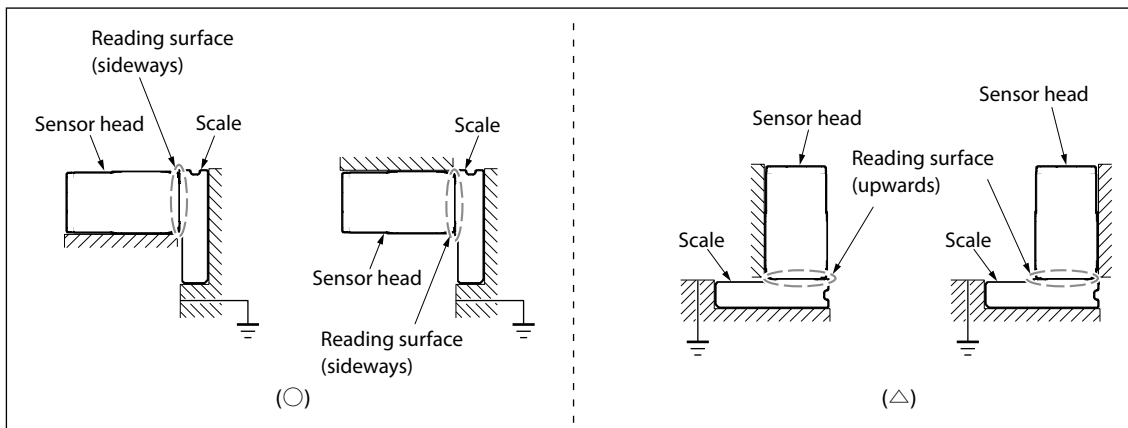

Fig. 3-1
- The sensor head will be damaged if the sensor head is moved outside the effective length (L) after installation. The sensor head must always be moved within the effective length.
- If sideways installation is not possible, install so that the sensor reading surface faces upwards. (Fig. 3-1)